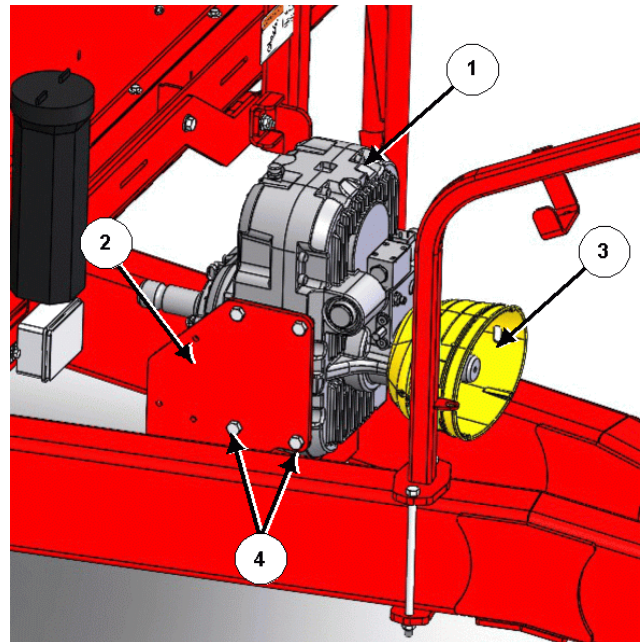

Figure 6: Fasten gearbox to the mount
2. Place the 2-speed power shift gearbox (1) onto the mount (2) with the PTO guard (3) facing toward the front of the hitch, see *Figure 6*.
3. Fasten the 2-speed power shift gearbox (1) to the mount (2) using 8 M14 x 25 grade 8.8 hex bolts (4), see *Figure 6*.
- b. Note: The hydraulic hoses (not shown in *Figure 6*) may need to be unsecured and moved in order to fasten the gearbox to the mount.